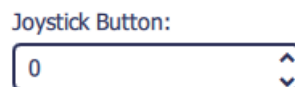

Figure 78 - Joystick Button Box
4. In the **Joystick Button** box, select or type the button number you want to assign. (Figure 78).